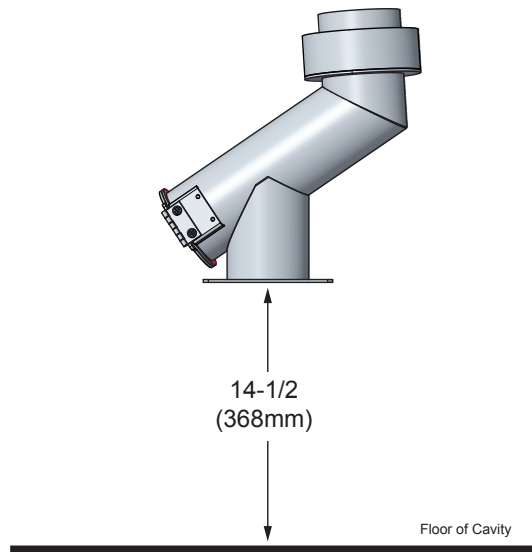

Figure 6
4. Suspend or otherwise support the venting in such a way that the bottom of the Vent Adapter (C1) is approximately 14-1/2 inches (368mm) from the floor of the cavity and the clean-out opening is pointing to the right (Figure 6).